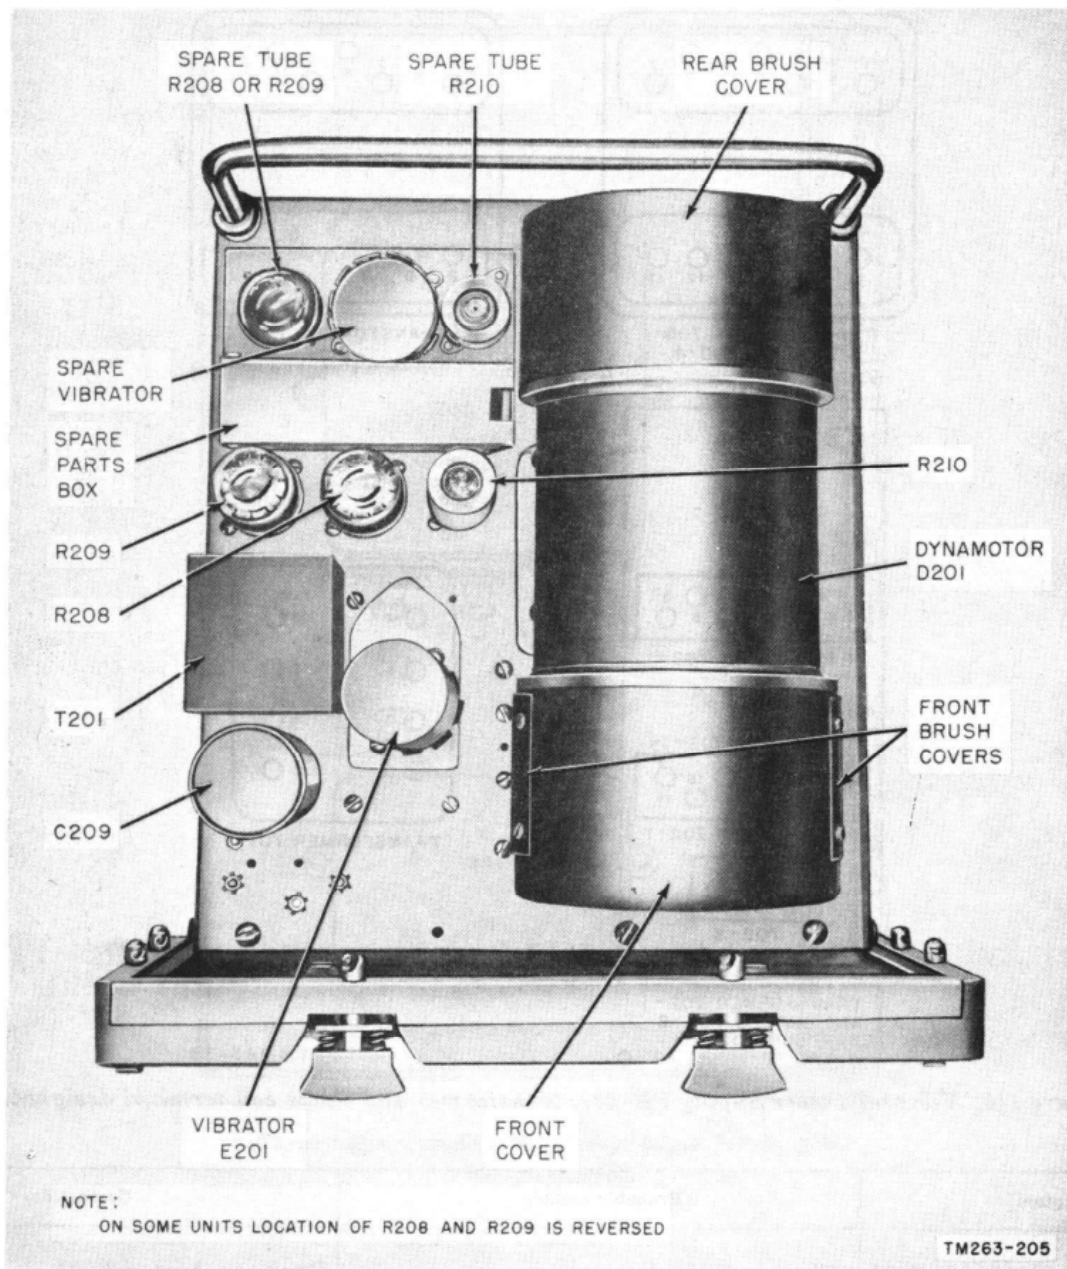
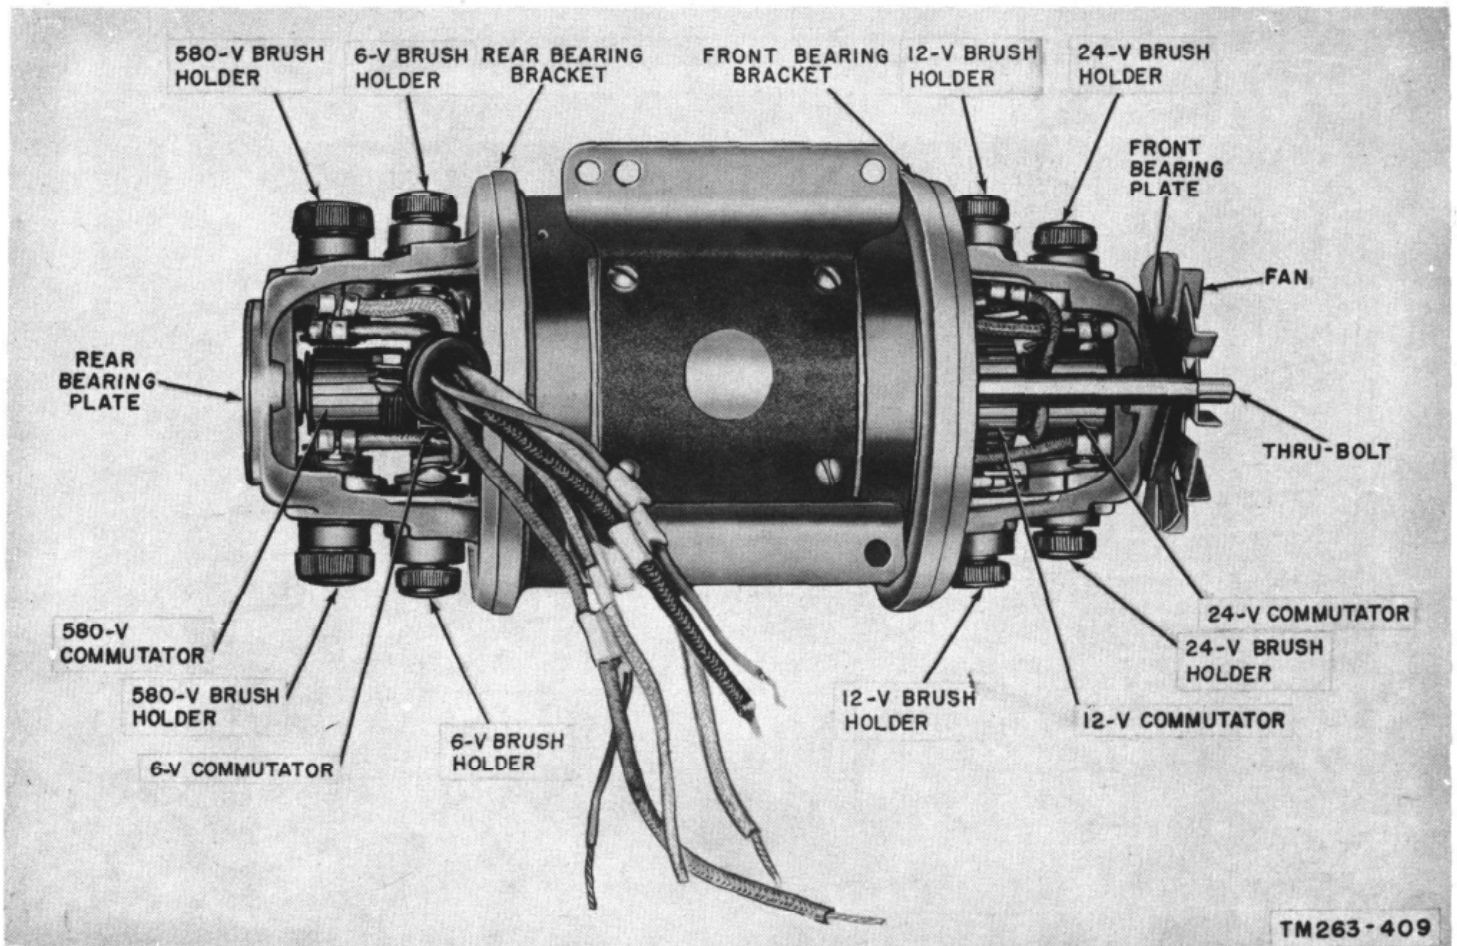

Figure 141. Dynamotor-Power Supply DY-88/GRC-9, top view of chassis.
Figure 144. Dynamotor D201, covers removed, bottom view.
b. Remove the four screws holding each of the two front brush covers (fig. 141) to the dynamotor. The 12- and 24-volt brushes (fig. 144) are now accessible.